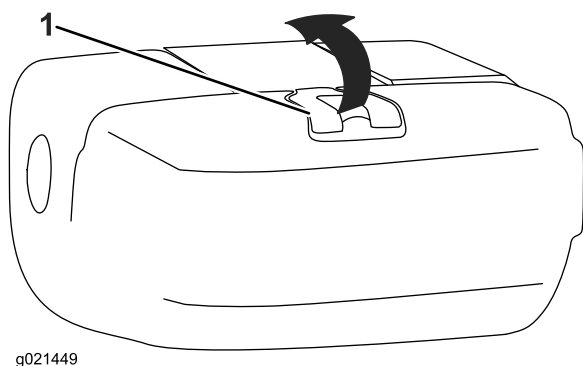

Figure 9
3. Clean around the fuel tank cap and remove it (Figure 9).
5. Install the fuel-tank cap securely (Figure 9).